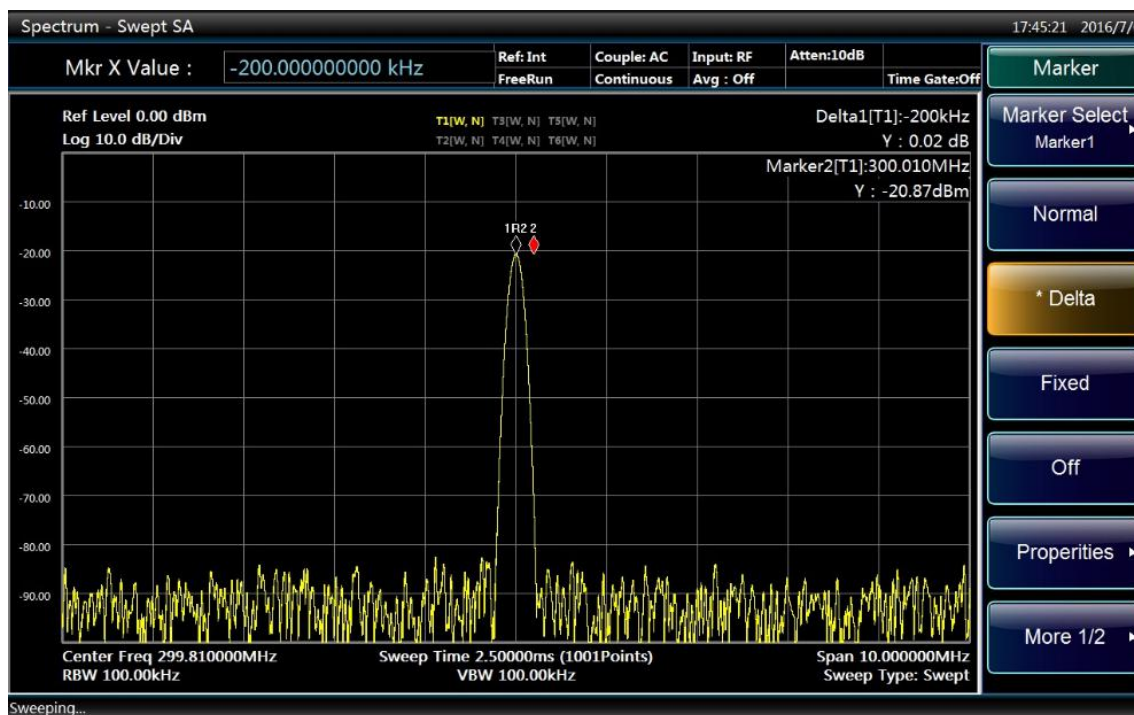

Fig. 4.38 Measurement of drift signal by signal tracking
Step 6. Adjust the output frequency of the signal generator by 100kHz step: the observable center frequency of the signal/spectrum analyzer also changes by the stepped frequency of 100kHz, where the step signal is always in the center of the screen display. As shown in Fig. 4.38.